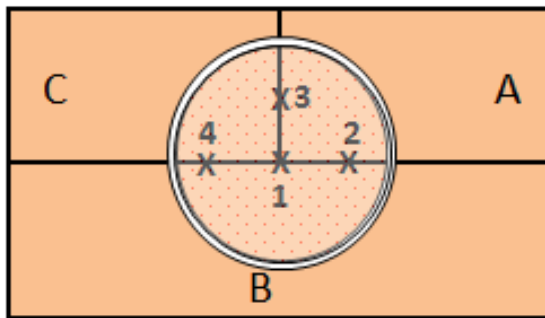

Figure 8 – Assembled Plank Surface Water Exposure Test Set Up
- 11) Using a clean beaker add 100 ml of **room-temperature distilled or de-ionized water plus 5 drops of red food color. Stir or swirl beaker until color is uniformly dispersed. Pour the water into the ring sealed to the laminate floor surface.** Water level should be approximately 3/8" (9 mm) deep – See Figure 8